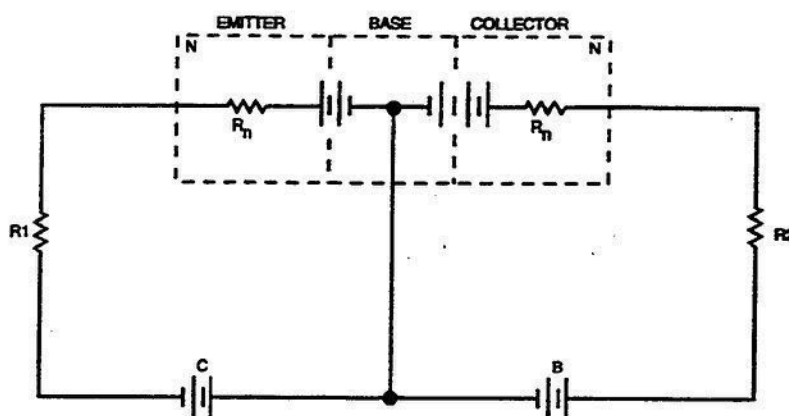

Figure 3-5. Transistor circuit operation.
**Operation.** The bias applied to each PN junction of a transistor determines the current flow through the transistor. The emitter-base junction is forward biased and the base-collector junction is reverse biased. Figure 3-5 shows the connections needed to bias an NPN-type transistor using two batteries. The figure also shows two external resistors,  $R_1$  and  $R_2$ ; the natural resistance of the N-type material,  $R_n$ ; and the junction barrier voltages represented by battery symbols. Use this diagram to follow the various current flows in the transistor circuit.
With both the emitter-base and base-collector circuits connected as in figure 3-5, the amount of forward bias determines the amount of current flow in the collector circuit. Between 92 and 99 percent of the emitter current flows through the collector. Notice in the diagram that batteries B and C are in series with each other in the emitter-collector circuit. Therefore, the electrons traveling through the emitter are attracted by the potential of the positive terminal of battery B, as well as the positive ions in the collector material. Another reason the electrons take this path instead of through the base circuit is the thickness of the base material. The base of a transistor is much thinner than the emitter or collector and, therefore, contains an insufficient amount of current-carrying holes to handle the large amount of electrons coming from the emitter. Most of the electrons, therefore, diffuse through the base and penetrate the base-collector depletion region where they are attracted by the positive potential of battery B.